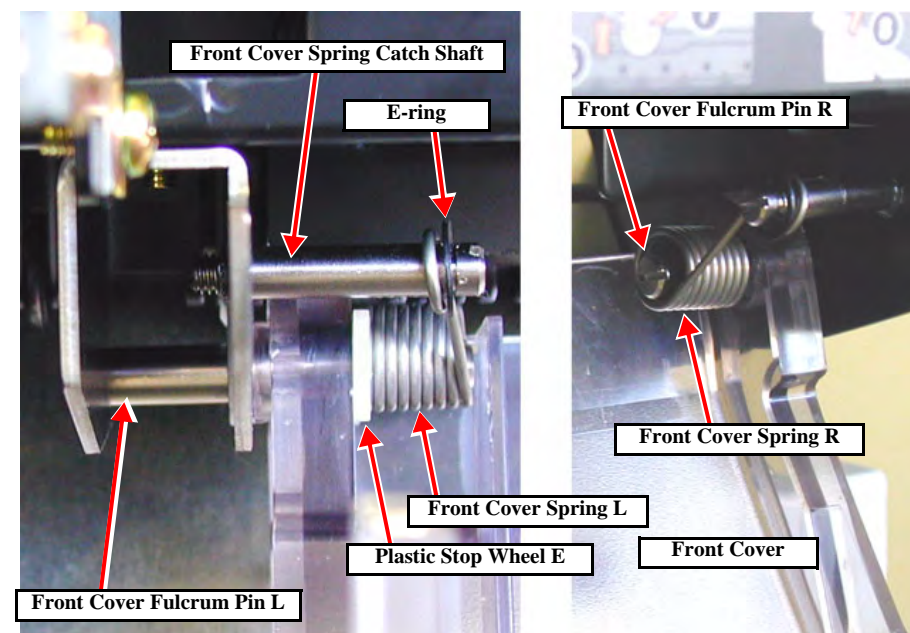

Figure 4-23. Front Cover Removal
3. Release the Front Cover Spring L from the Front Cover Spring Catch Shaft on the left side of the Front Cover. (See Figure 4-23)